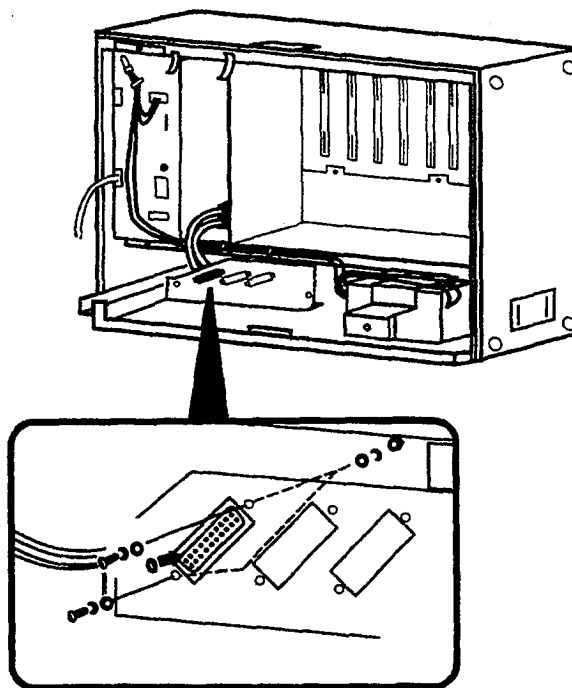

Figure 2-64 Connecting the MIF Cable Assembly and the MIF-F(A)-10 KTU to the ESF-H-10 KSU
The MIF-F(A)-10 KTU can be installed into an Option Slot (OP) or into one of the four Interface/Option Slots (IF1/OP1 ~ IF4/OP4), in the first two ESF-H-10 KSUs. The MIF-F(4)-10 KTU is shipped with two cable assemblies (MIF cable assembly). One end of each cable has an RJ45 (8-pin) connector. The other end of the cable terminates at an RS-232 connector. This connector must be mounted on the KSU. Refer to Figure 2-64 - Connecting the MIF Cable Assembly and the MIF-F(A)-10 KTU to the ESF-H-10 KSU.
3. Connect the MIF Cable Assembly to CN7 and CN10 on the MIF-F(A)-10 KTU and the KSU. Refer to Figure 2-64 - Connecting the MIF Cable Assembly and the MIF-F(A)-10 KTU to the ESF-HB-10 KSU.